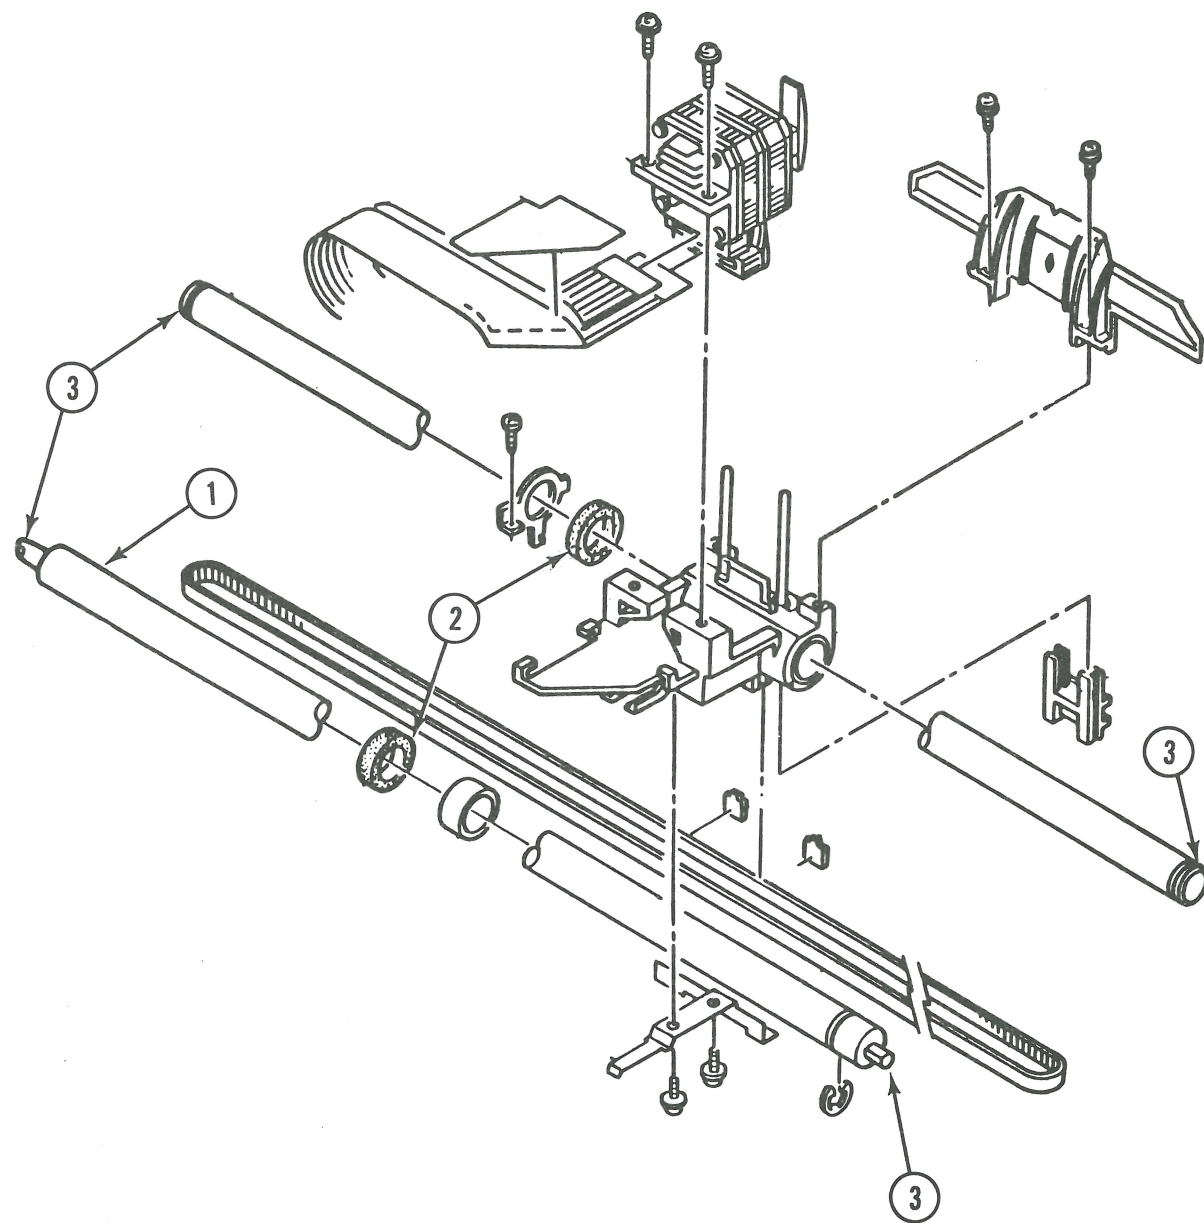

FIGURE 8
2. Clean the carrier shafts (Figure 8, #1 and #2) by wiping off any old oil and dirt with a lint-free cloth.
3. Lubricate each lubrication point (Figure 8, #3) with one drop of Floil G-488. Lubricate the remaining lubrication points (Figure 8, #2) with one drop of Floil 947-P.